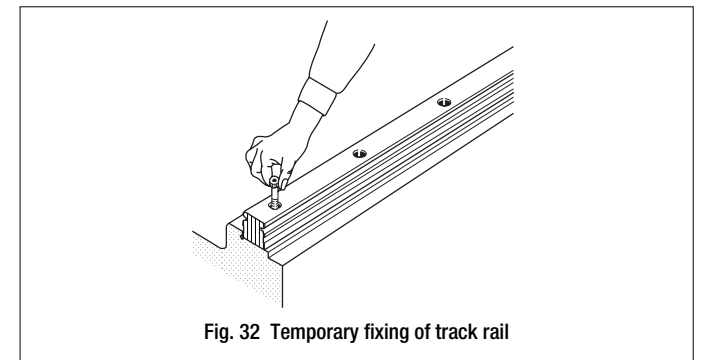

Fig. 32 Temporary fixing of track rail
- Correctly fit the reference mounting surfaces of Linear Way I and II track rails onto the mating reference mounting surfaces of the bed, and temporarily fix the track rails with mounting bolts. (See Fig. 32.)